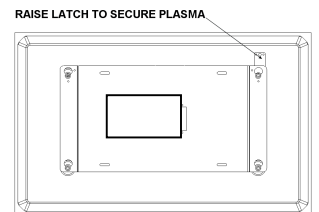

Figure 5
5. With the aid of another person, lift the display up to the mount, align the mounting buttons on the display with the teardrop slots in the mount, and set the display into place (see Figure 5).
6. Position (raise) the flag to secure the plasma (see Figure 5).